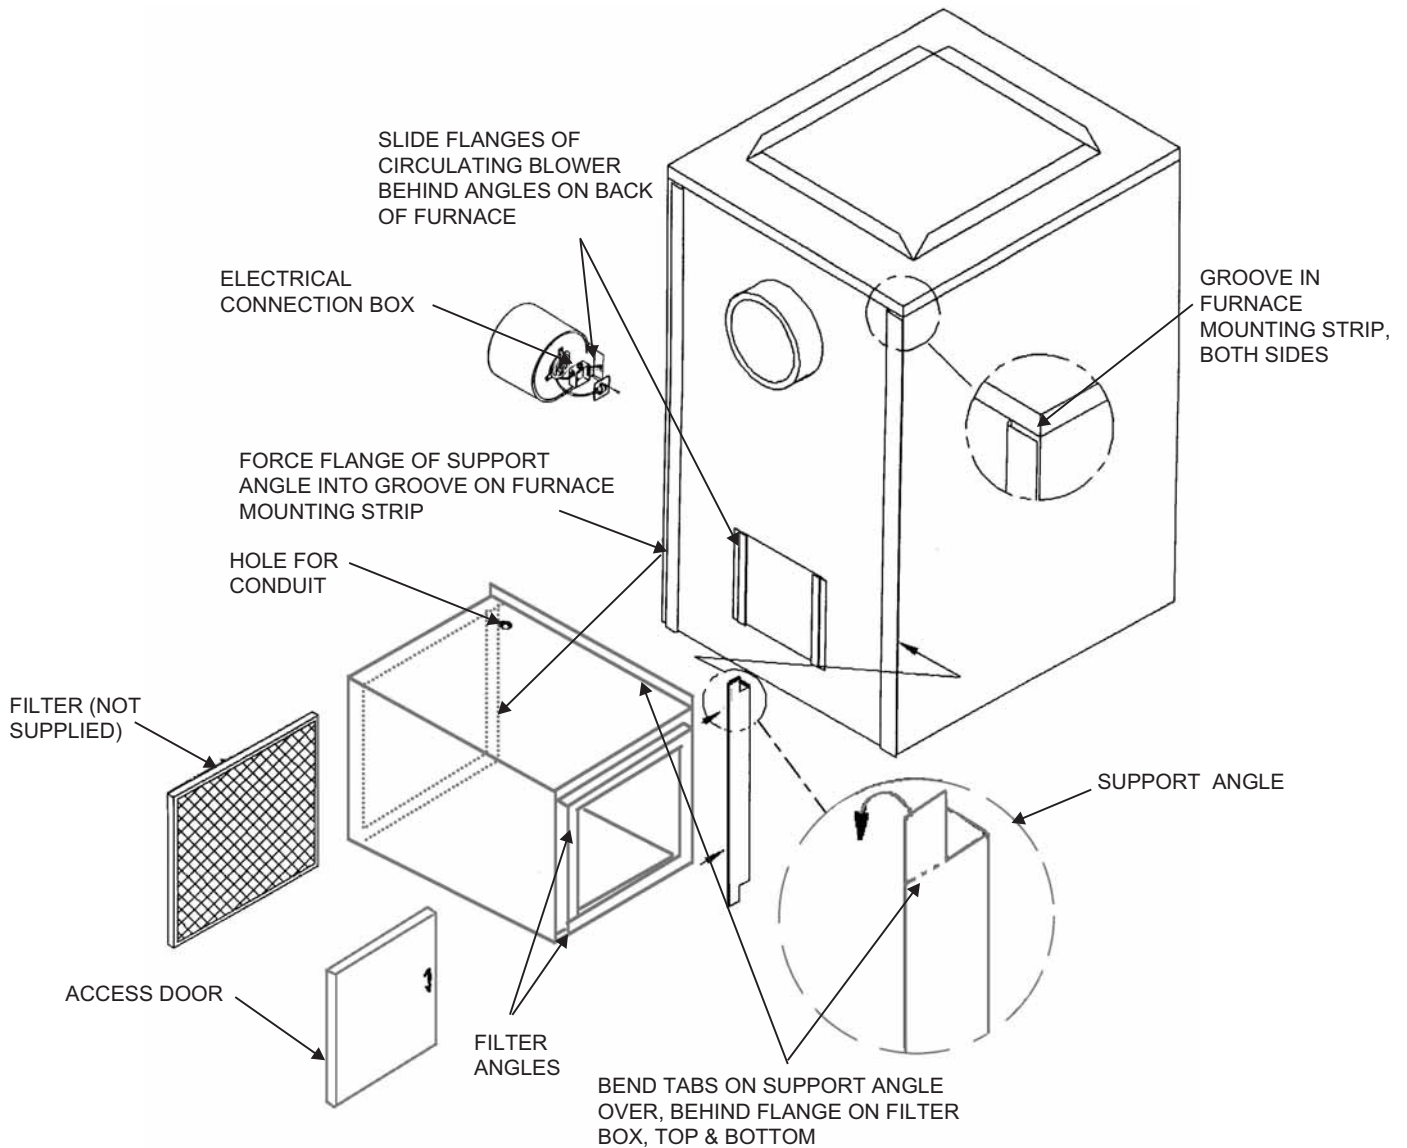

FIGURE 21 INSTALL CIRCULATING BLOWER AND FILTER ELECTRICAL HOOKUP (FIGURE 22)
The flanges on the circulating blower simply slide behind the angle mounts welded to the rear of the furnace. Slide in from the top side, figure 21.
2. Find two factory shipped support angles. Force support angle sides without tabs into the groove of the mounting strip on both rear sides of the furnace. Position at correct height to accept filter box, figure 21.